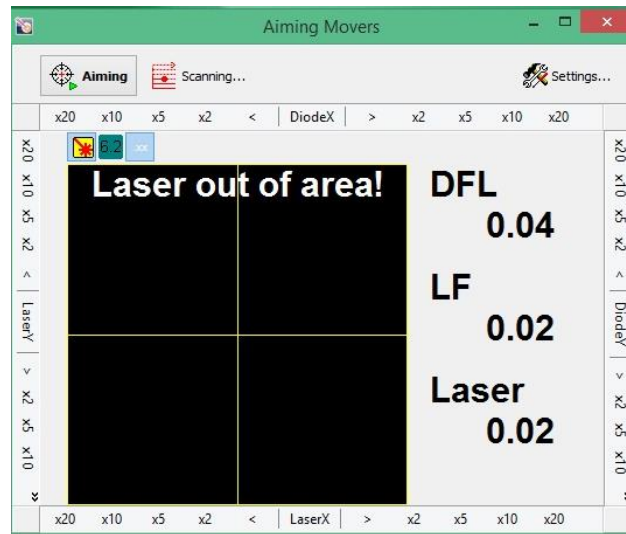

Figure 9: Laser and diode aiming menu
- The aiming menu (Figure 9) works just like the camera menu with the controls along the perimeter.